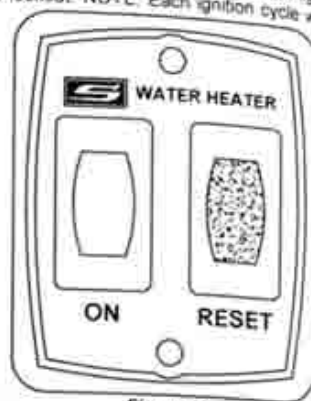

Figure 12
- Turn switch that operates the water heater to "ON" position. The switch is illustrated in Figure 12. Your Switch may be different in appearance and is located somewhere inside the RV. If the burner does not light, the system will automatically attempt two more tries for ignition before lock-out. When light remains illuminated, the system is in lockout. **NOTE:** Each ignition cycle will have a 15 second purge before spark cycle if system is a three try system.